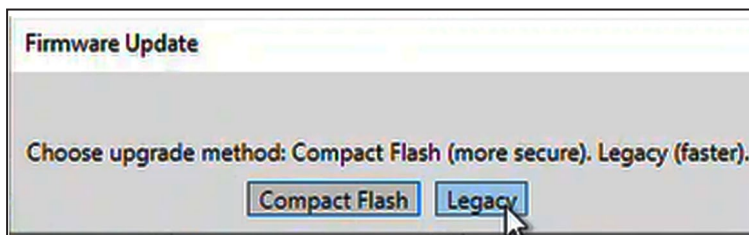

Figure 20. The Firmware Update dialog box upgrade method choice.
STEP 8. The Firmware Update dialog box may ask about the MCU OS revision. Click on the **Yes** button if this dialog box opens. See Figure 20.